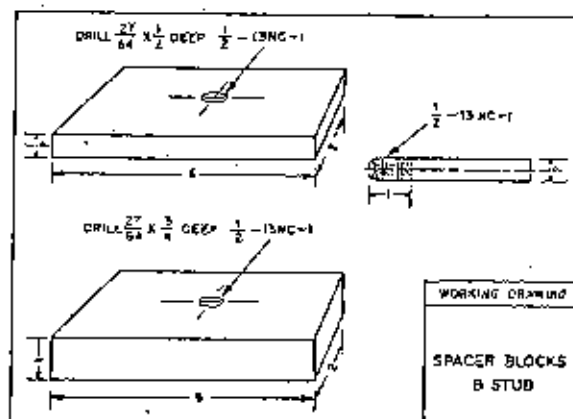

Figure 2-6-27.—A working drawing for tapping and cutting threads.
The working drawing shown in figure 2-6-27, specifies a 1/2 in. 13 National Coarse (NC) thread to be tapped in a through hole in one part (1/2 in. deep hole in 1/2 in. stock). The same thread is to be tapped in a blind hole in another part (3/4 in. deep hole in 1 in. stock). The 1/2 in. round stock is to be threaded with this same thread to fit the tapped holes.
To cut threads on a piece of round stock—1/2-13 N.C. on a 1/2-inch rod in this case—first grind a chamfer on the end of the rod as shown in the working drawing in figure 2-6-27. Then hold the rod vertically in the vise to cut the threads. The working drawing in figure 2-6-27 calls for a 1/2-13N.C.-1 thread. The figure 1 after the N.C. indicates that a class 1 fit is required. A class 1 fit is a loose fit. The fit is controlled while threading the round stock. We tap the threads in the hole first as there is